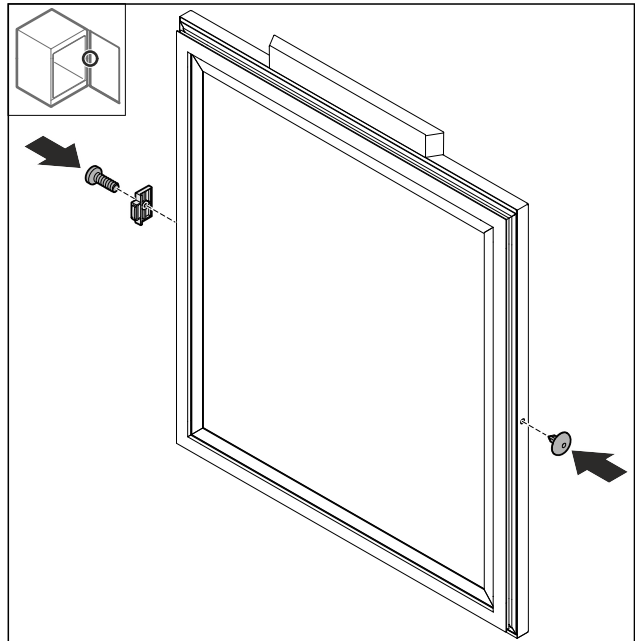

Fig. 76
- Turn the door stopper Fig. 76 (1) 180° and fit it on the opposite side.
- Insert the cover Fig. 76 (2) on the opposite side.